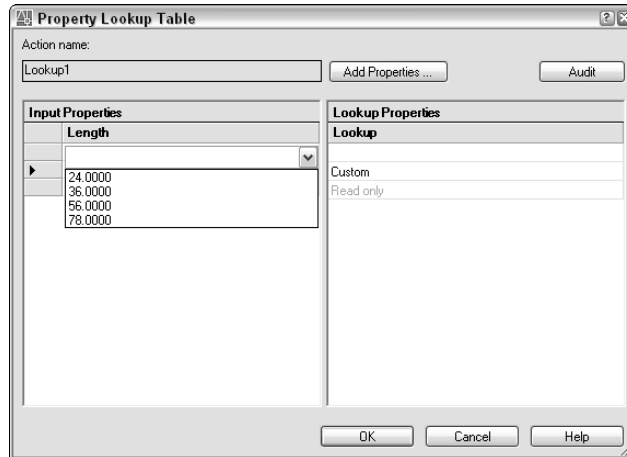

Figure 18-21: The Property Lookup Table dialog box enables you to associate values with labels.
4. Click the Add Properties button, choose the parameter that you want to work with (for example, the linear parameter), and click OK. You return to the Property Lookup Table dialog box, as shown in Figure 18-21.
5. If you have values from a value set, you can see them by clicking the first row in the Input Properties side of the dialog box. A drop-down arrow appears. Choose the first value. If you don't have a value set, you can enter values on each row. Click the same row on the Lookup Properties side of the dialog box and enter the label that corresponds with the value. For example, in Figure 18-21, the label was Desk Chair. Then click the next row, choose the next value, and enter the next label. Continue until you're done.